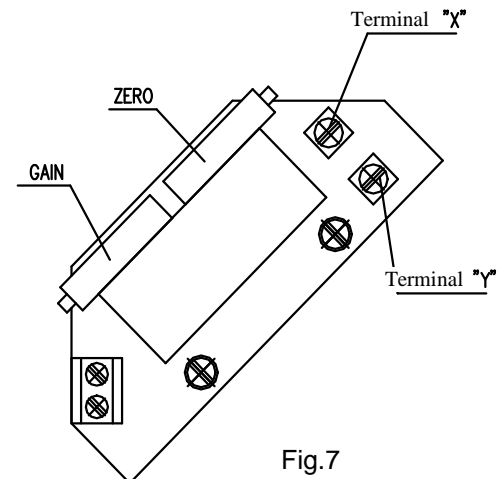

Fig.7
##### 4.4.1 EPV – the 2-wire version (Fig. 7,7a)
- Adjust the resistive transmitter according to the previous chapter. The resistance is to be metered on the terminals X-Y (Fig. 7,7a). The used transmitter resistance is 100  $\Omega$ .
- Adjust the resistive transmitter according to the previous chapter. The resistance is to be metered on the terminals X-Y (Fig. 7,7a).